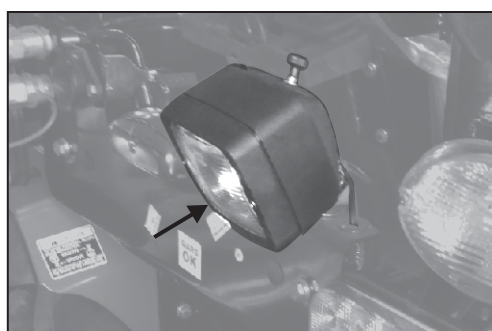

Fig. 3.5c
c. **Plough Lamp:** Adjustable plough lamp is provided at rear side as shown in figure 3.5c.